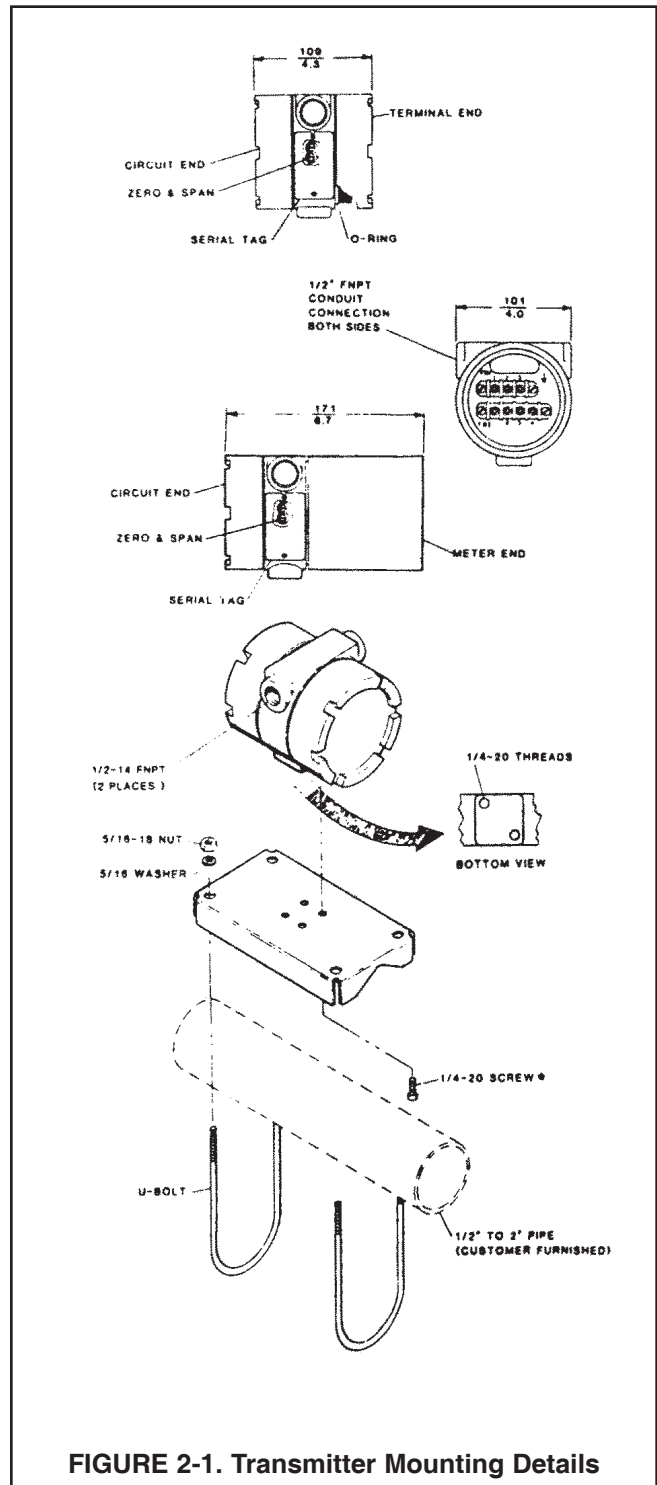

FIGURE 2-1. Transmitter Mounting Details
2.2 MECHANICAL INSTALLATION. Two threaded mounting holes are located in the bottom of the transmitter housing (see Figure 2-1). These holes are provided for mounting to a flat surface or for attaching the transmitter to the pipe mounting bracket (see Figure 2-1).